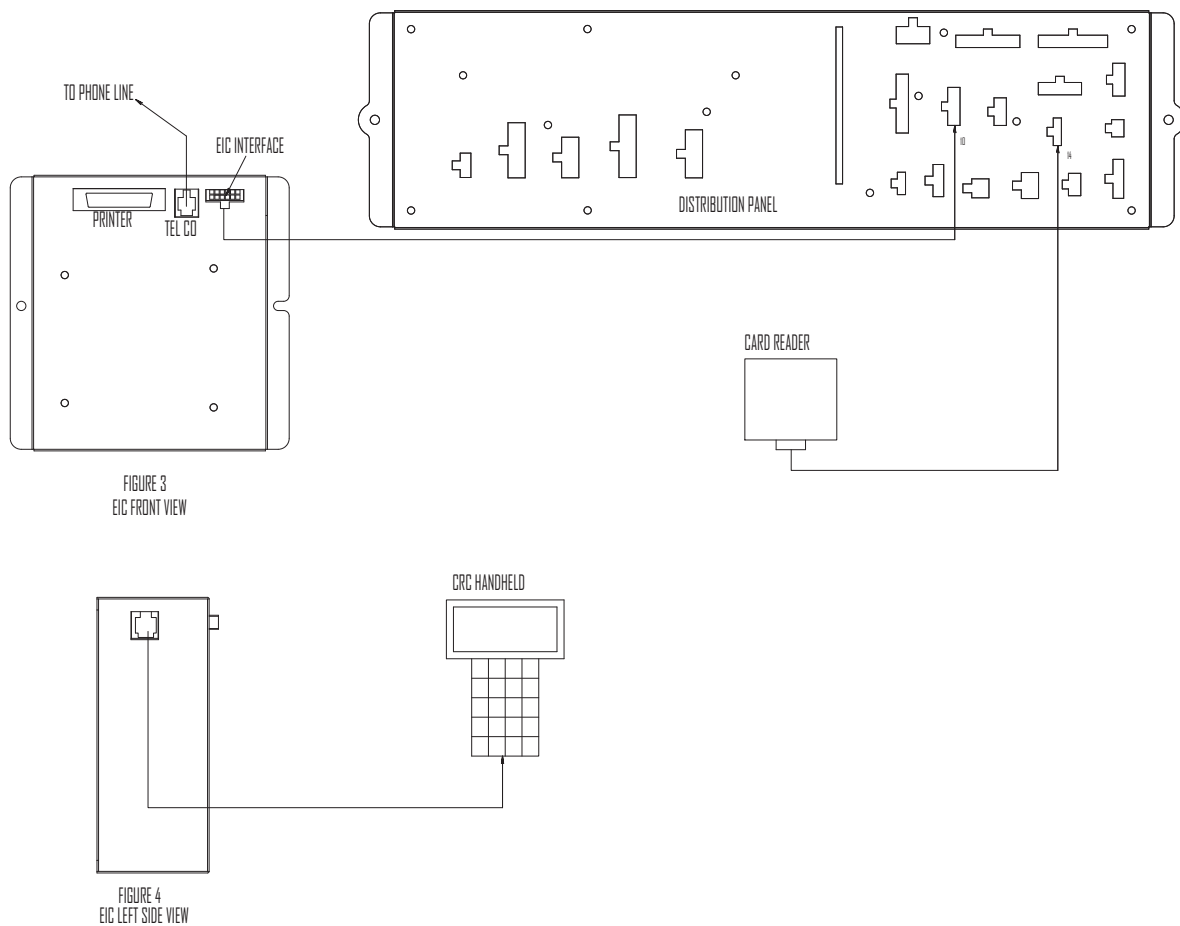

Figure 2-1
2. The Hand-held Remote that connects to one of the serial port connectors on the EIC (See Figure 2-1). This remote allows the user to program various features and receive feedback regarding current operations. **The Hand-held Remote is not intended for outdoor use, so it is advised to remove the remote and cable from the machine and store it in a safe place once programming or data retrieval is complete.**
Figure 2-1 shows the connections of all the credit card components.